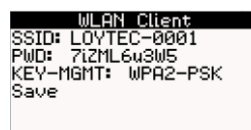

Figure 6: Wireless Setup on the LCD Display.
- **WLAN Client:** This menu displays the WLAN client settings. After saving these settings, the WLAN client mode is activated on this interface (see Figure 6).